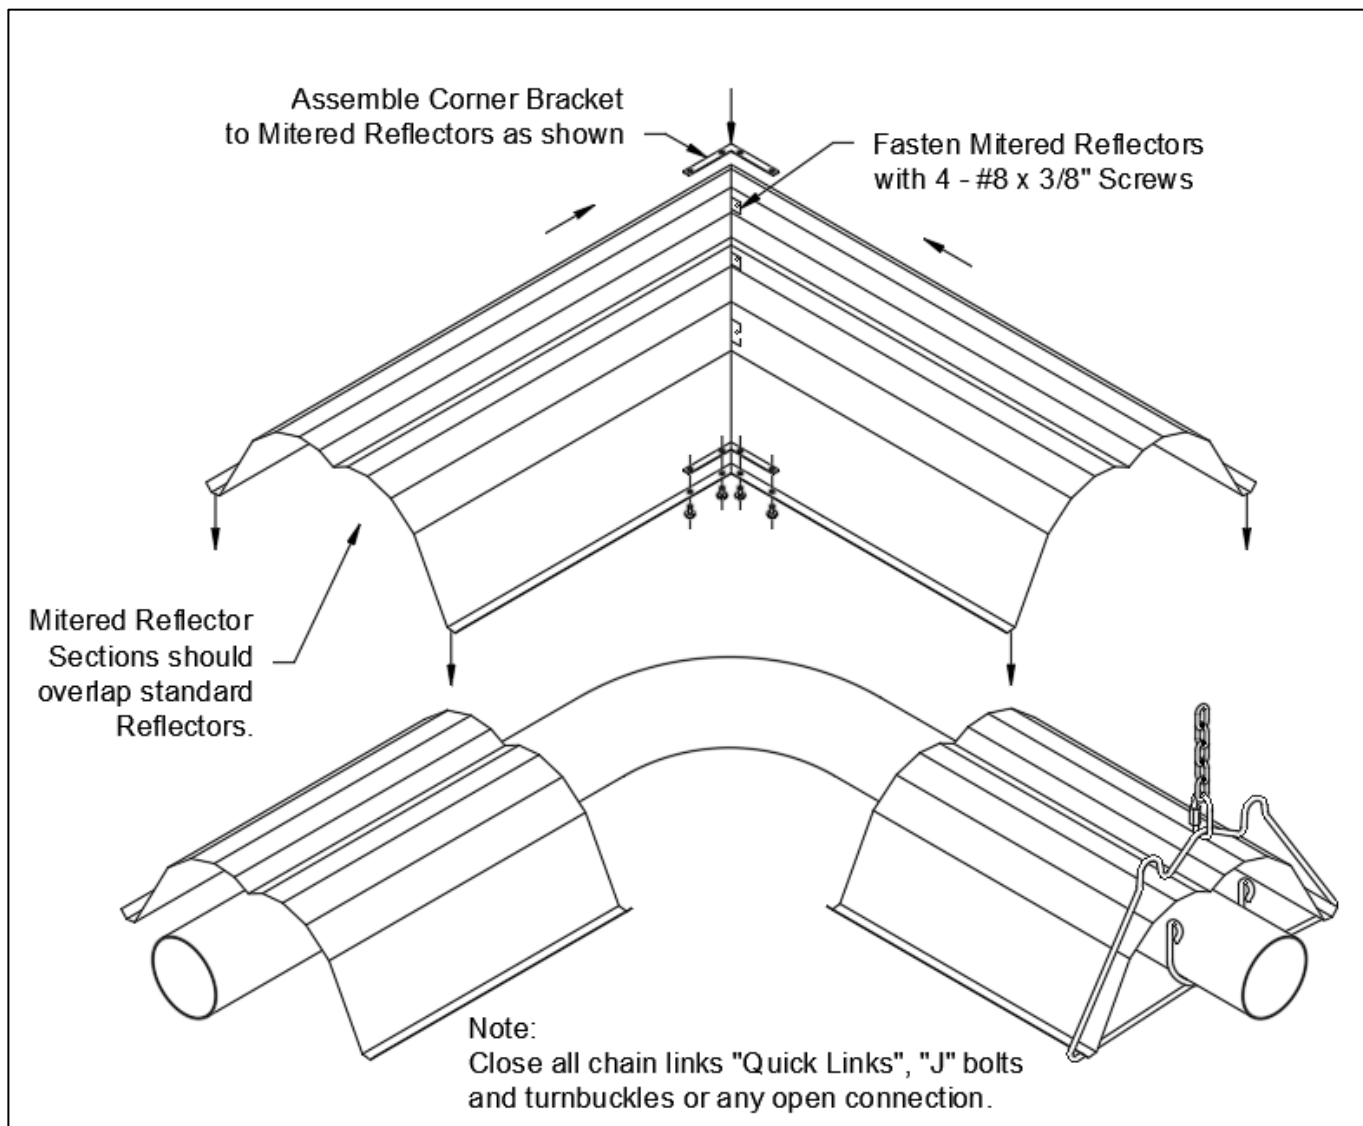

Figure 20: Mitered Reflector Installation
Note: Elbows or U-tubes are typically installed without reflectors. To reduce the above clearance to combustibles distance use miter reflectors (see Figure 20) and refer to Clearance to Combustibles information.
- If used, install the Mitered Reflector as shown below (Figure 20).